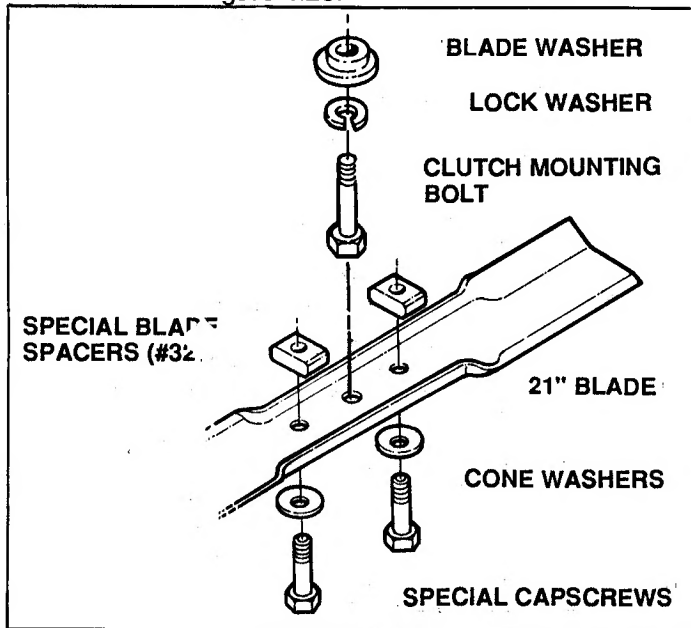

FIGURE 4.23
4. Remove CLUTCH MOUNTING BOLT, LOCKWASHER and BLADE WASHER from CLUTCH SUB-ASSEMBLY. See Figure 4.23.
6. Reinstall blade (Refer to Figure 4.23). Torque capscrews to 20/30 FT./LBS.